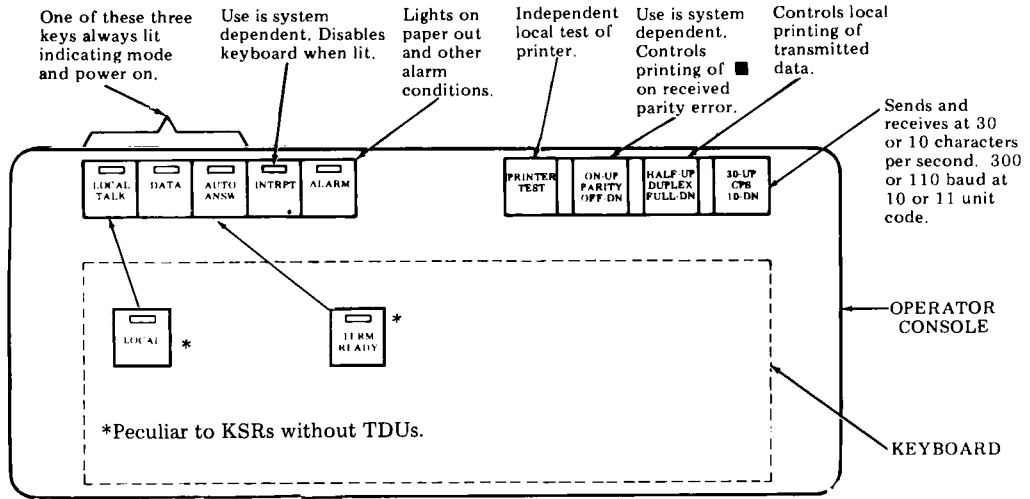

Fig. 3—KSR Operational Controls and Status Indicators
- 2.14 The operational controls and status indicators for the KSRs are briefly described in Fig. 3.